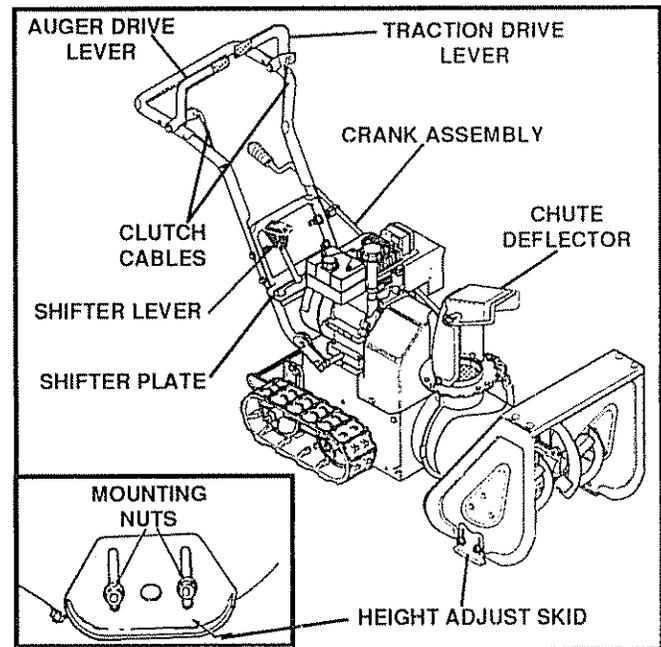

FIG. 2
Figure 2 shows the snow thrower completely assembled
- Your snow thrower is equipped with height adjust skids (See Fig. 2) on the outside of the auger housing. To adjust the skid height for different conditions, see To Adjust Skid Height paragraph on page 18.